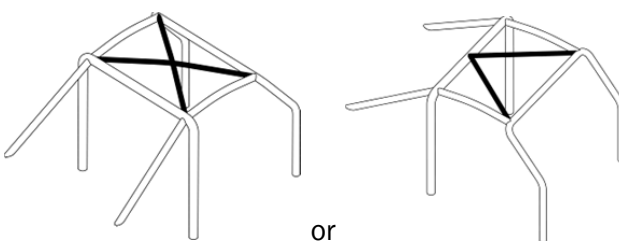

Figure 13
- 12.3. Shoulder straps shall be directed downwards and backwards and shall be attached with an angle of no more than 10°. (Figure 13).